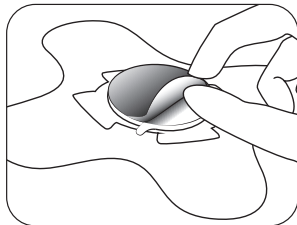

figure 8A: Removing Foil Seal
- A. Remove the circular foil seal from the top of the Patch to reveal the coupling media within the gel cup (Figure 8A).